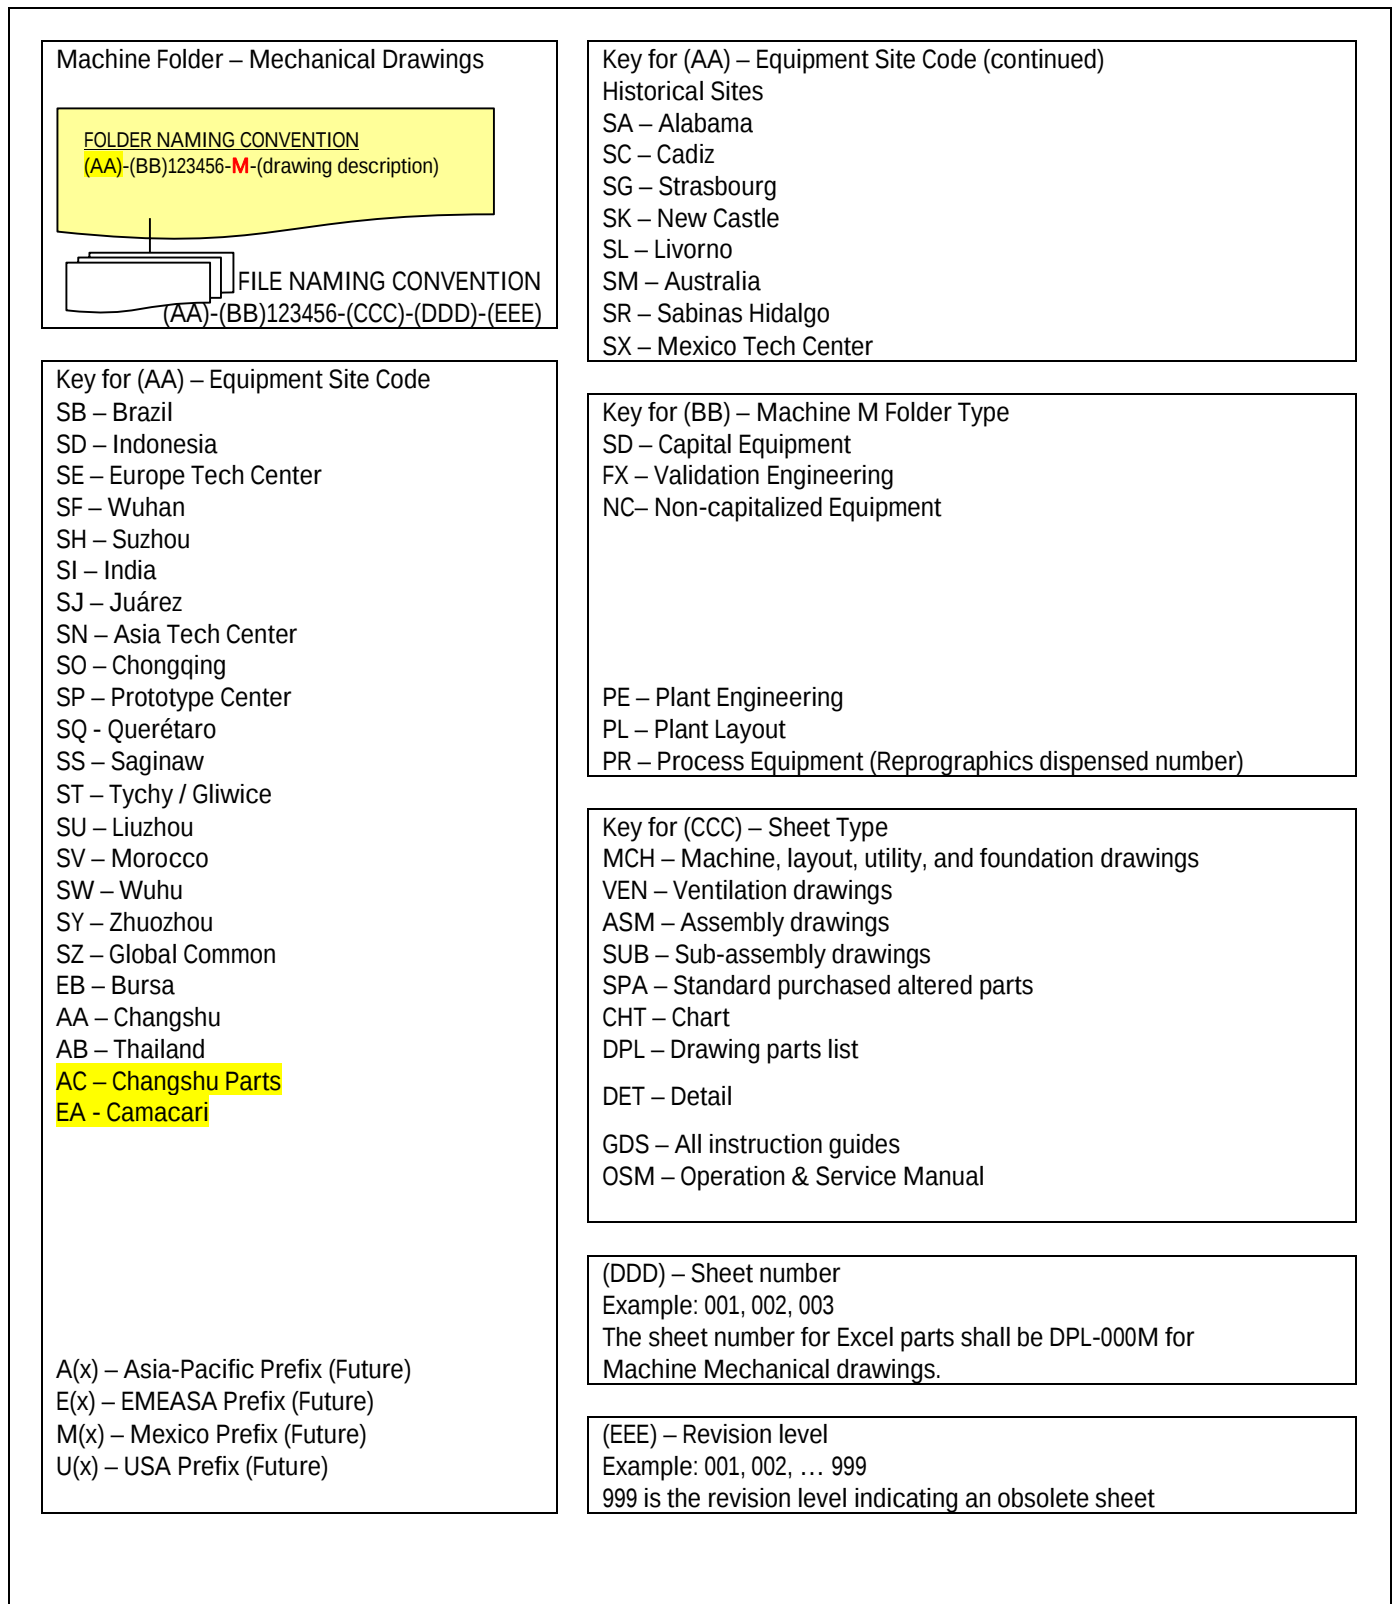

Figure 1: Machine M Folder – Mechanical Drawings
- 3.6.3 Refer to Figure 1, for clarification of the following title block instructions. The circled numbers in Figure 1 correspond with the item numbers below.